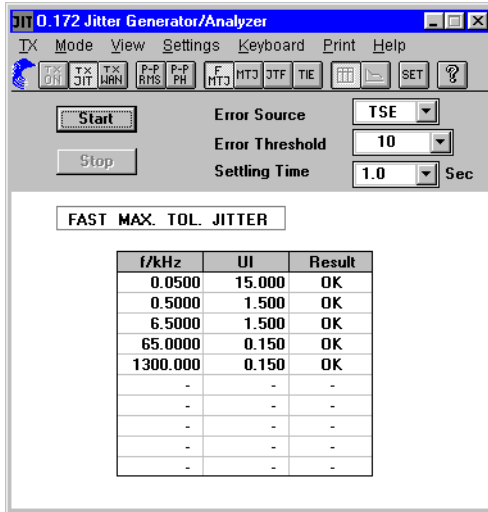

Fig. A-61 Fast MTJ measurements window
- The table (see Fig. A-61) contains combinations of jitter frequencies and jitter amplitudes or default values specified by the user. Starting with the smallest frequency, they are set when the measurement is started.